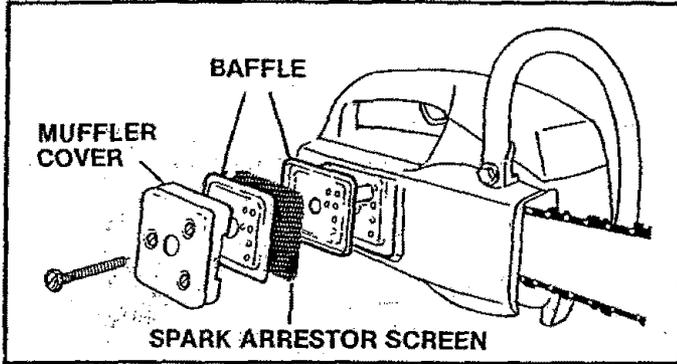

Figure 46
- Remove the muffler, baffles, and screen. Figure 46.